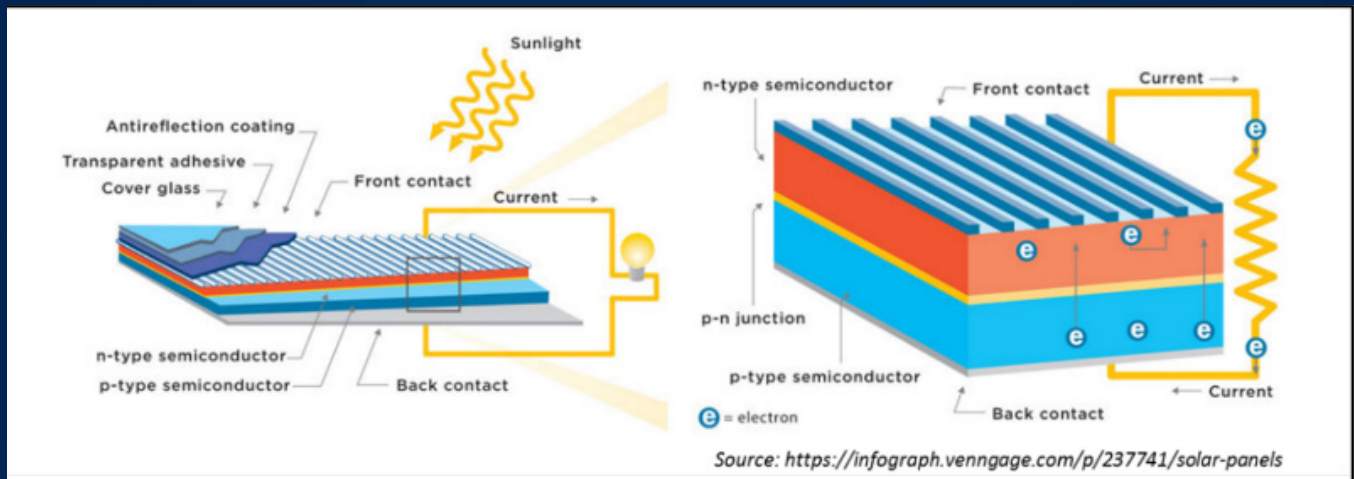

Figure 2.0 Solar PV Cells Working Principle
The build material of solar PV cells, mainly from crystalline silicones^[2] (N-type and P-type silicones), produces a voltage output in response to incident lights (any light source). Sunlight carries tiny packets of energy called photon as it shines^[3]. The electrons of the silicon atoms in the solar PV Cells absorb energy from the photon energy of the sunlight. When sufficient energy is absorbed, it allows free moving electrons which results in electrical potential energy difference, or direct current (DC) voltage (Figure 2.0).